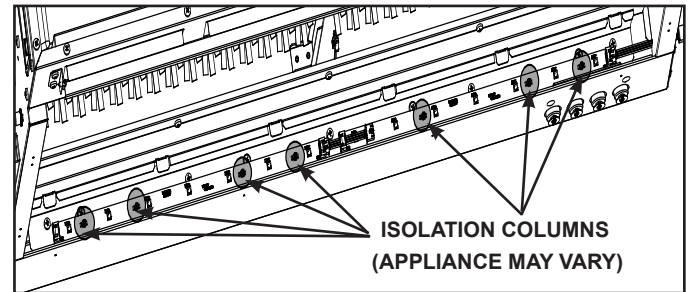

Figure 10 Isolation Columns
4. Remove the LED light board from the bottom isolation columns. Starting at one end of the board use a needle-nose pliers to compress the plastic barbs from each isolation column as each plastic barb is compressed, disengage the LED light board from each barb. See Figure 10.